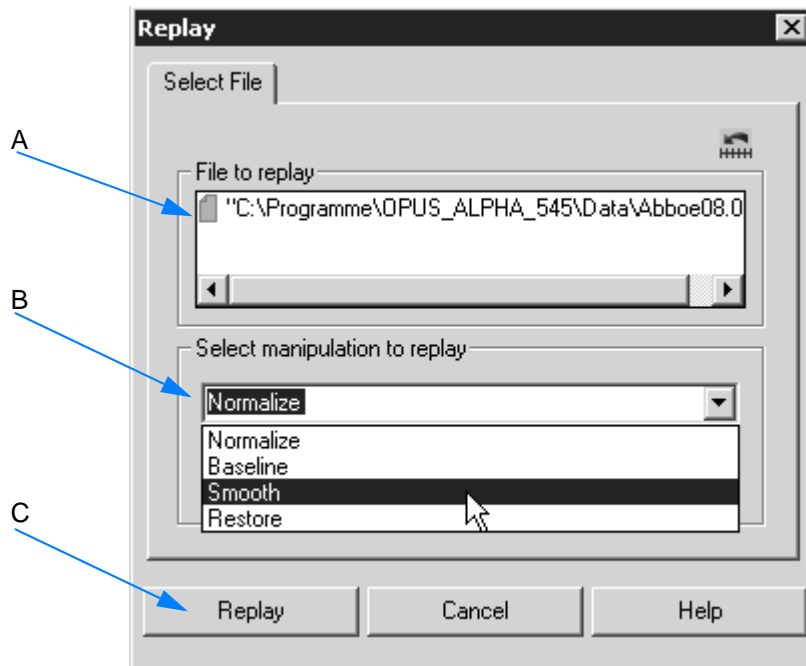

Figure 81: Edit Menu - Edit Parameter
- B Select the manipulation command from the drop-down list, which you want to repeat. If you select *Smooth*, as exemplified in figure 81, the *Normalize*, *Baseline* and *Smooth* manipulation commands will be performed on the original spectrum.